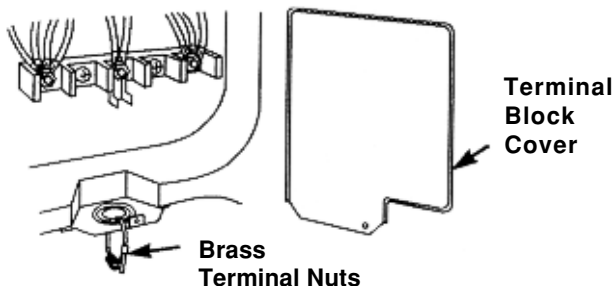

Figure 2-6
3. Remove the terminal block cover from the back of the range, and the brass terminal nuts that are attached to the knockout (see Figure 2-6).